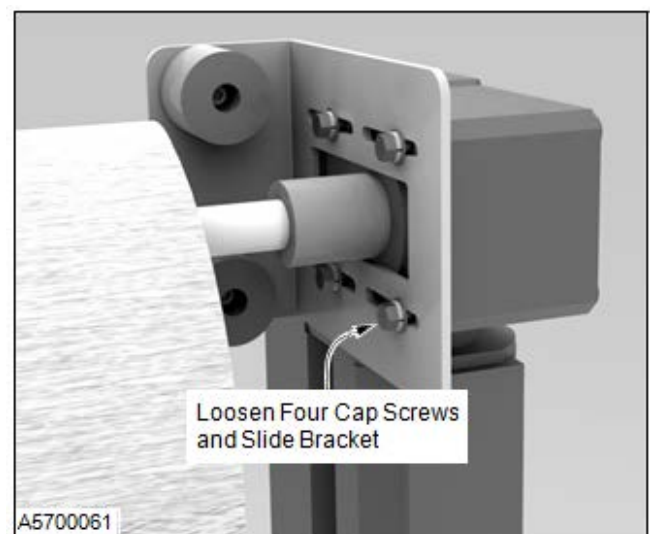

Figure 52
6. Loosen the four cap screws and slide the isolator bracket away from the side column. (See Figure 52)